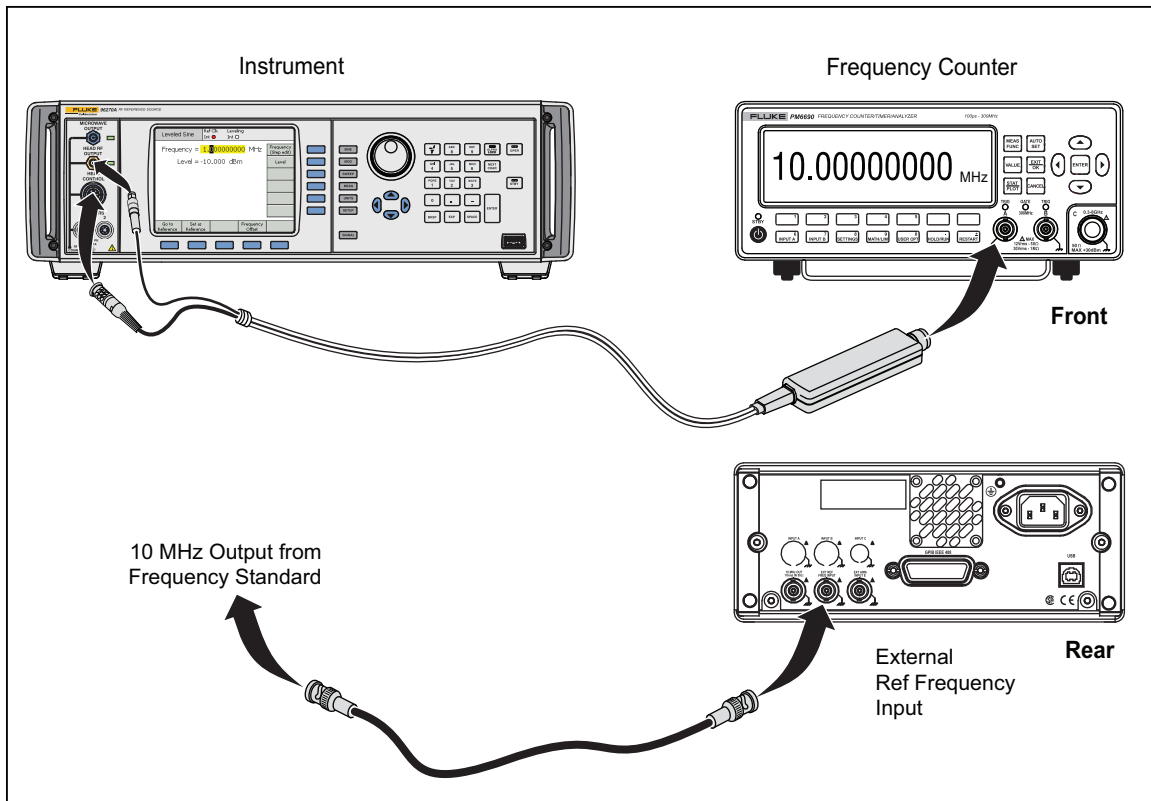

Figure 3-2. Equipment Connections - Frequency Accuracy Test
3. Connect the UUT Leveling Head to the Channel A input of the frequency counter. See Figure 3-2 for equipment connections.